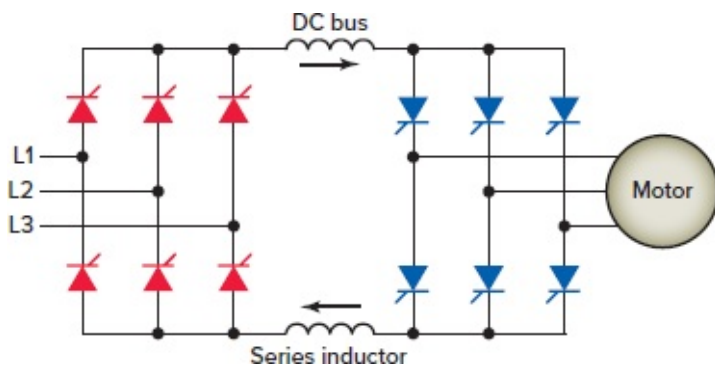

Figure 10-33 Simplified circuit of a current-source inverter (CSI).
- Figure 10-33 shows the simplified circuit of a current-source inverter (CSI).